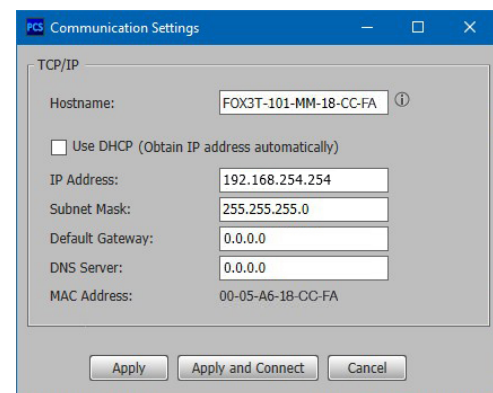

Figure 15. Communication Settings Box
1. Click the **TCP/IP** tab (see figure 15, ①).
2. In the **IP Address/Hostname** field (②), enter the IP address of the desired device.